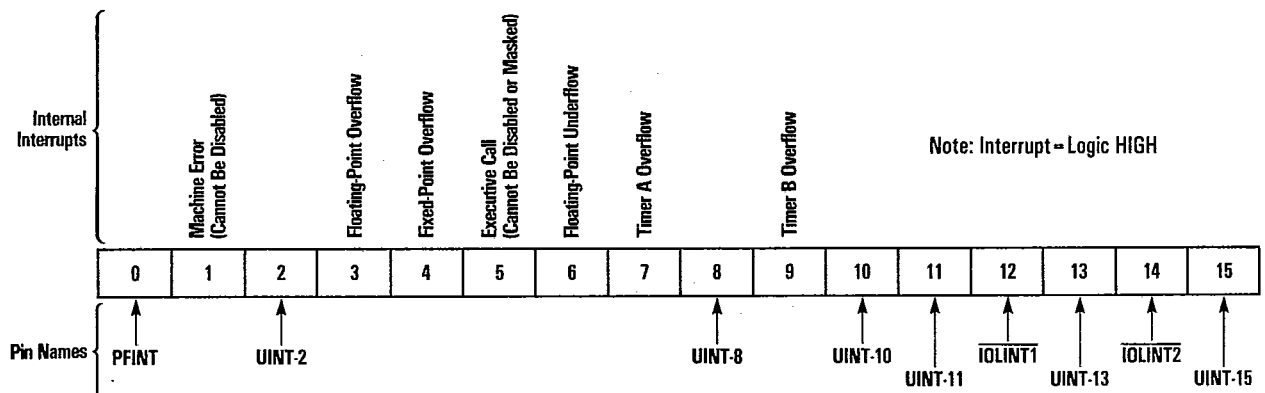

Figure 2. Pending Interrupt Register Bit Assignments
Pending Interrupt (PI)—This block contains the pending interrupt register and priority encoder. The pending interrupt register is a 16-bit register used to capture and hold interrupts. PI supports three dedicated external, six user-definable external and seven dedicated internal interrupts as defined by MIL-STD-1750A. Power Fail (PFINT) and User Interrupts (UINT) are captured on the HIGH-to-LOW transition. I/O level interrupts are level sensitive. Figure 2 defines PI bit assignment. The priority encoder generates an interrupt request to the Control Unit whenever one or more unmasked interrupts are pending in pending interrupt register (PI) and encodes the highest priority unmasked pending interrupt as a 4-bit vector. This vector is read by the Execution Unit during interrupt servicing to create the interrupt linkage and service pointers.
Timers A and B (TA, TB)—Two 16-bit software controllable timers. Timer A is clocked by the TCLK (100 KHz as defined in MIL-STD-1750A) input while timer B is clocked by the internally generated 10 KHz clock. Timers A and B will generate interrupt levels 7 and 9, respectively (Figure 2) when their maximum counts of 65,536 are reached. (Timers A and B can be disabled by applying a LOW to pin STC.)